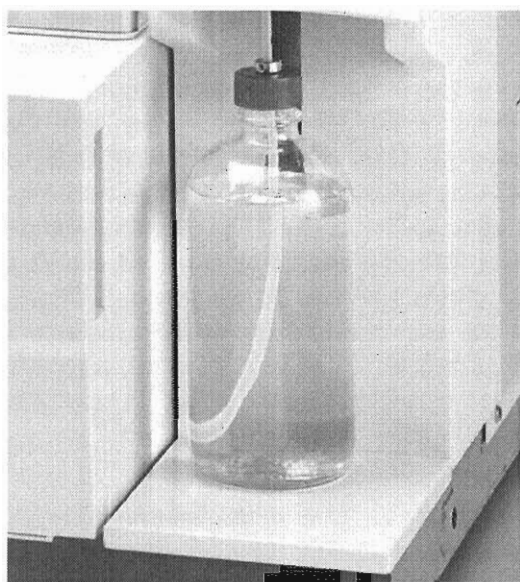

Figure 2-J
6. The mounting medium bottle may now be placed in position, directly under the control panel. Open the cap and place the tube inside the bottle. Secure the cap by turning it clockwise (Fig. 2-J).